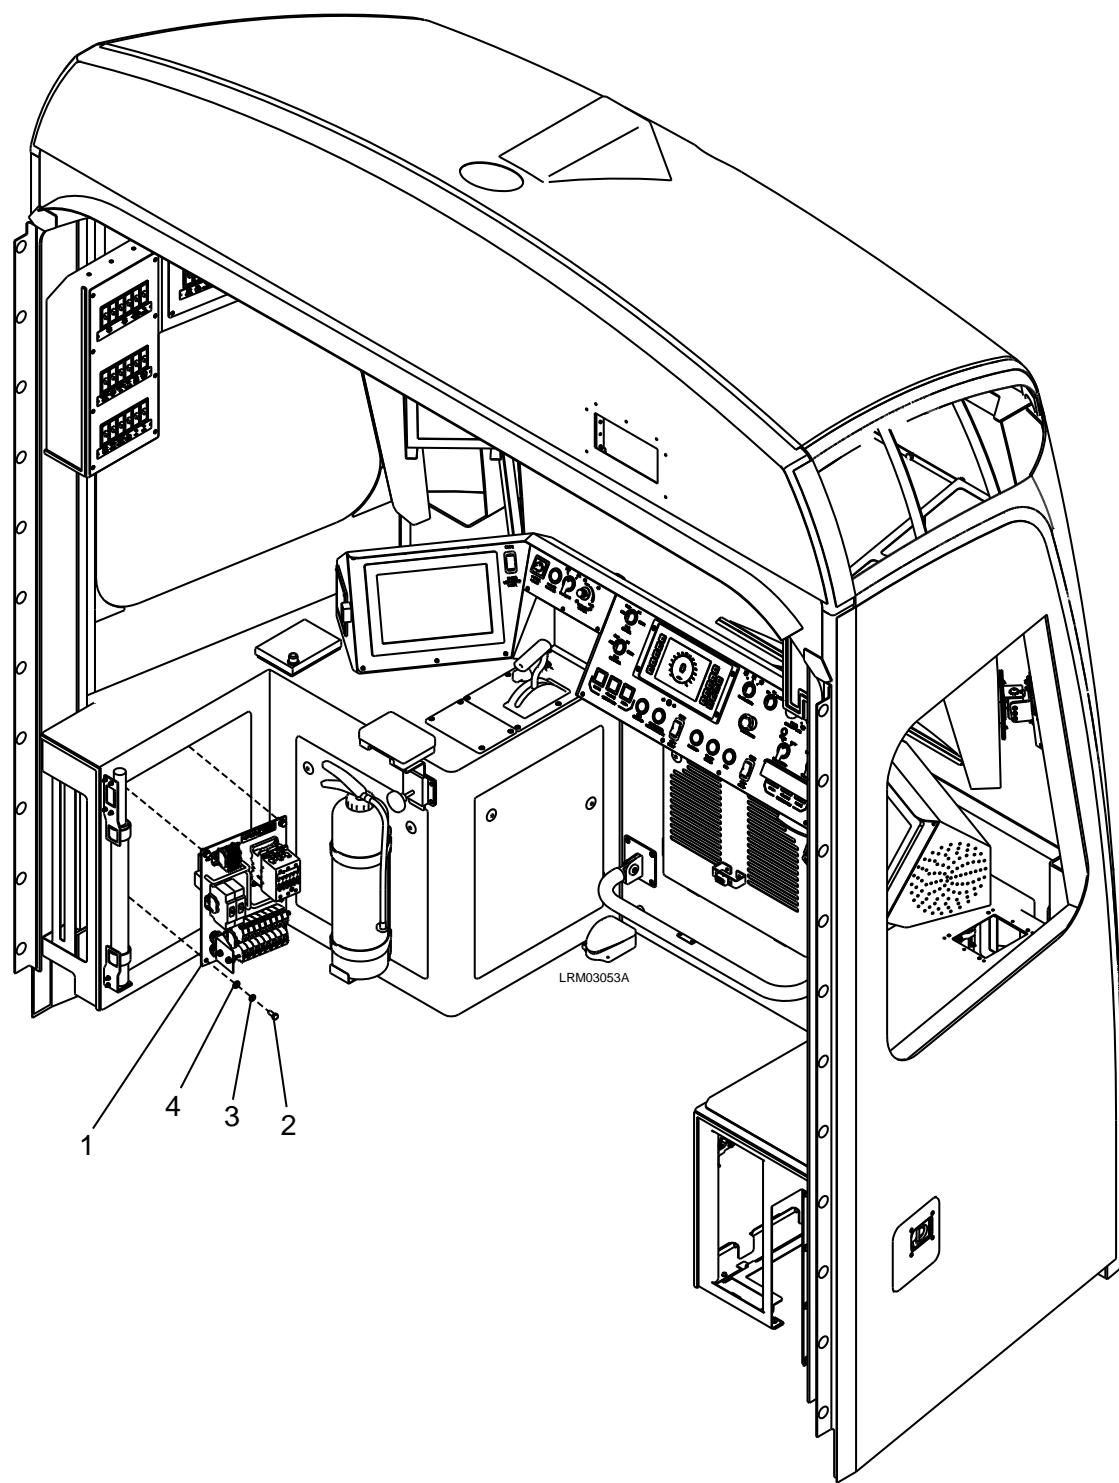

Figure 7-61: Track Brake Panel
2. Remove the WAGO terminal electrical connections to the Track Brake Panel (1). See Figure 7-61.
3. Remove the four M8 x 20 bolts (2), M8 lock washers (3), and M8 plain washers (4).
4. Carefully remove the Track Brake Panel (1).